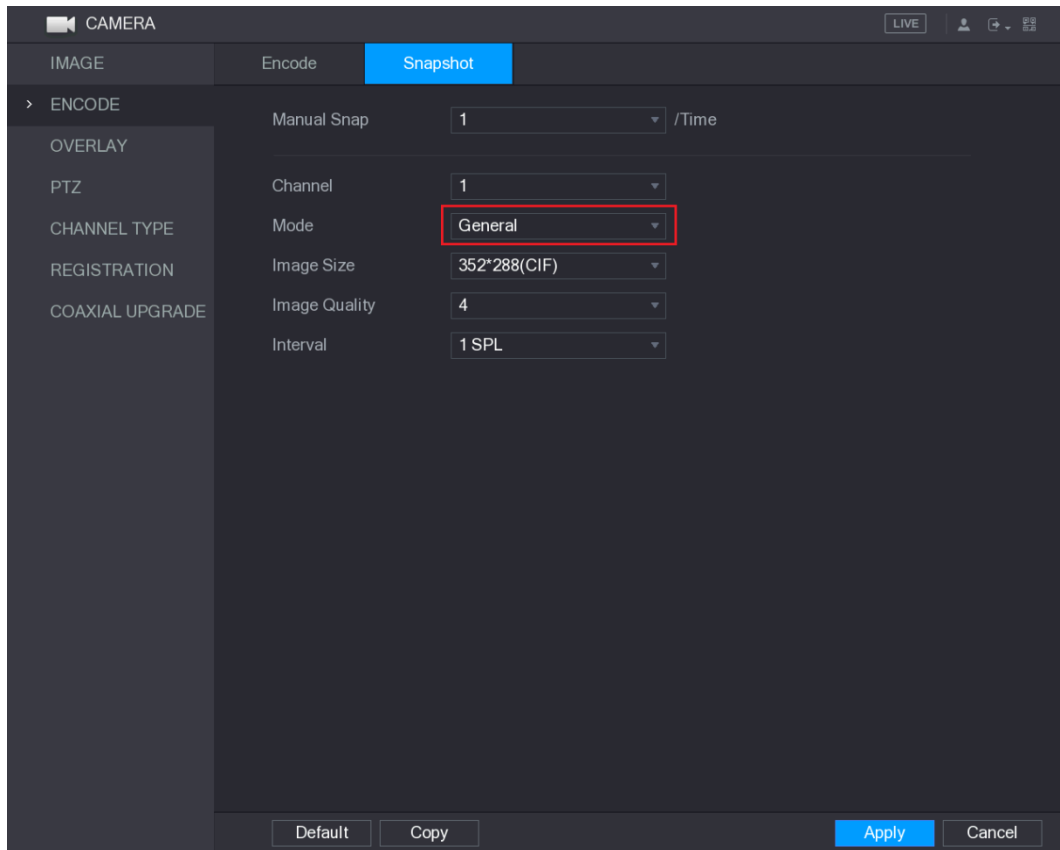

Figure 5-90
**Step 5** In the **Mode** list, select **General**, and then configure other parameters. See Figure 5-90.